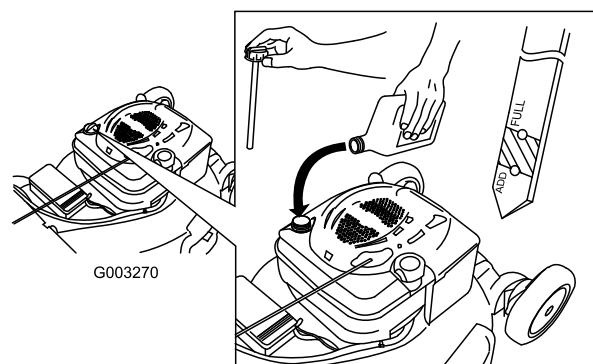

Figure 44
4. **Slowly** pour oil into the oil fill tube until the oil level reaches the Full line on the dipstick (Figure 44). **Do not overfill.** (Max. fill: 20 oz. (0.59 l), type: SAE 30 detergent oil with an API service classification of SF, SG, SH, SJ, SL, or higher.)